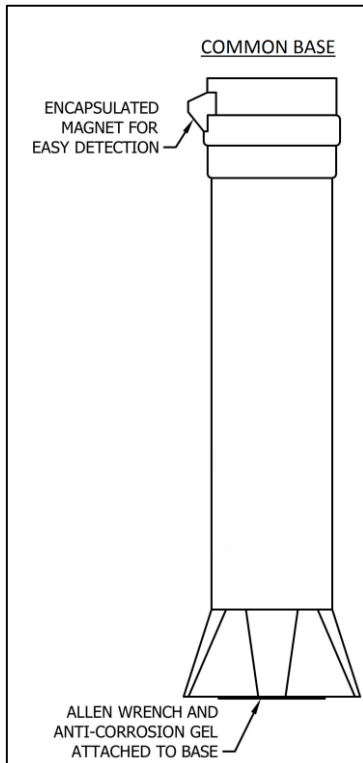

Fig. 1
2. Remove anti-corrosion gel pack and Allen wrench from base; set aside (Fig. 1)